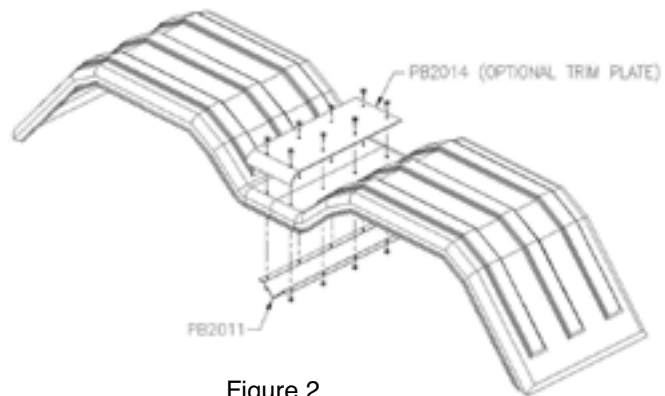

Figure 2
- C. Using the 1/4"x 3/4" long Phillips truss head bolts, attach the fenders, trim plate (if purchased) and center bracket together. Make sure the center bracket V is facing down. Tighten down the bolts using the supplied lock nuts. **DO NOT OVER TIGHTEN** the bolts. Start from the center and work towards the outside. See Figure 2.